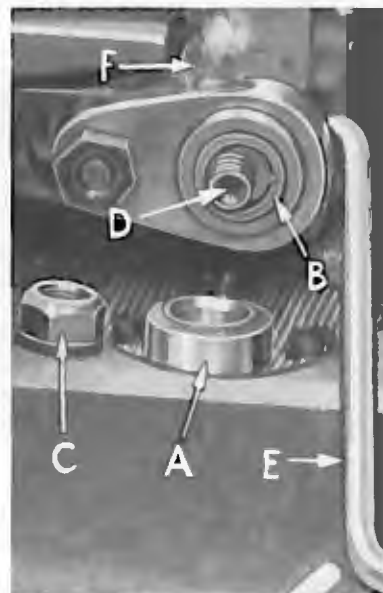

Fig. 16
Length of stitch is determined by the combination of feed eccentrics used. The outer (left) eccentric (A, Fig. 16) actuates the main (rear) feed dog, while the inner (right) eccentric (B) actuates the differential (front) feed dog.